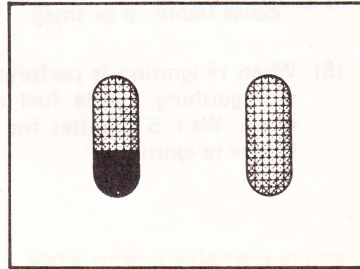

Fig. 5
* The color portion (as shown in Fig. 5) shows the remaining kerosene.
- (2) Levelling